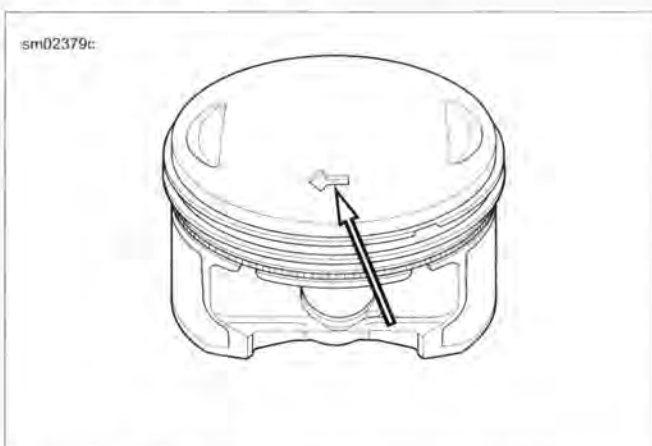

Figure 3-60. Piston Installation Arrow
5. See Figure 3-60. Place piston over rod end with the arrow stamped on the top of the piston pointing toward the front of the engine.